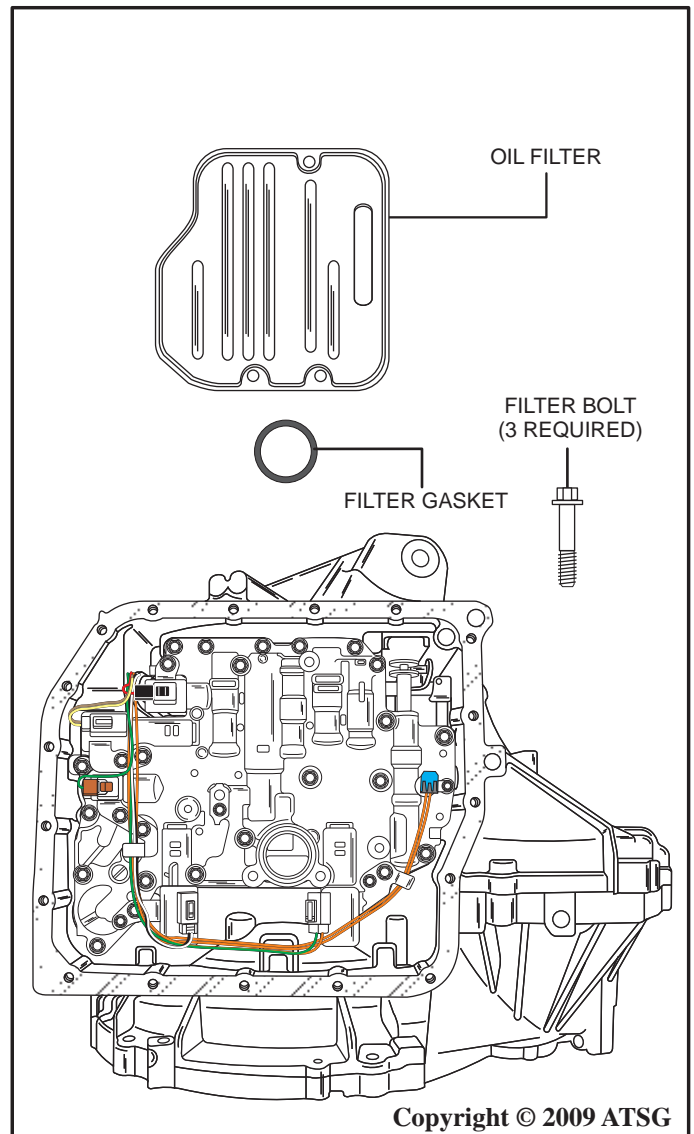

Figure 16
4. Remove the three filter attaching bolts as shown in Figure 16.
5. Remove the oil filter and oil filter gasket as shown in Figure 16.